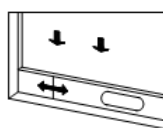
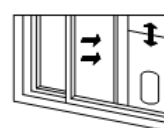

Fig. 2
Fig. 3
- 1) Partly open the window and fit the window sealing plate assembly into the window (see Fig. 2 and Fig. 3). The window sealing plate assembly can be placed both in horizontal and vertical positions.